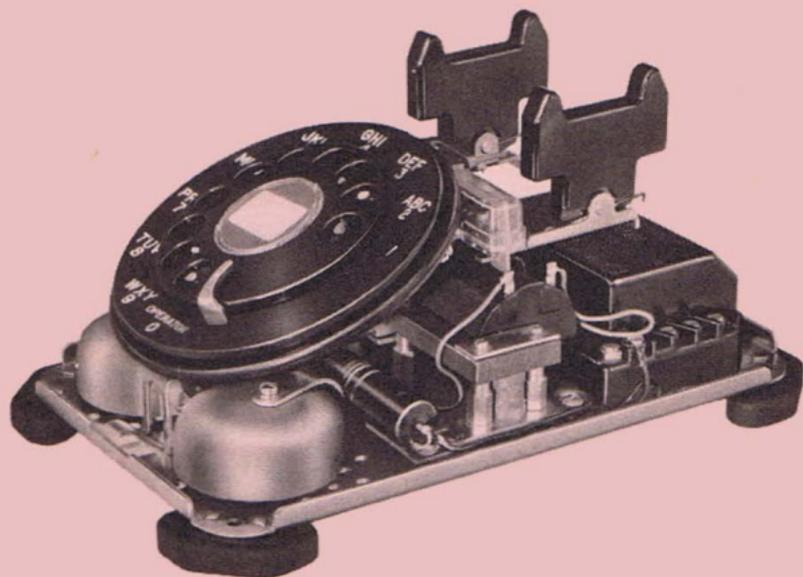

Figure 2. Base Assembly.
a. *Base Assembly* (fig. 2). This assembly is comprised of a dial or dial blank assembly, a ringer assembly, a hookswitch assembly, and a coil-capacitor assembly all of which are mounted on a metal baseplate.